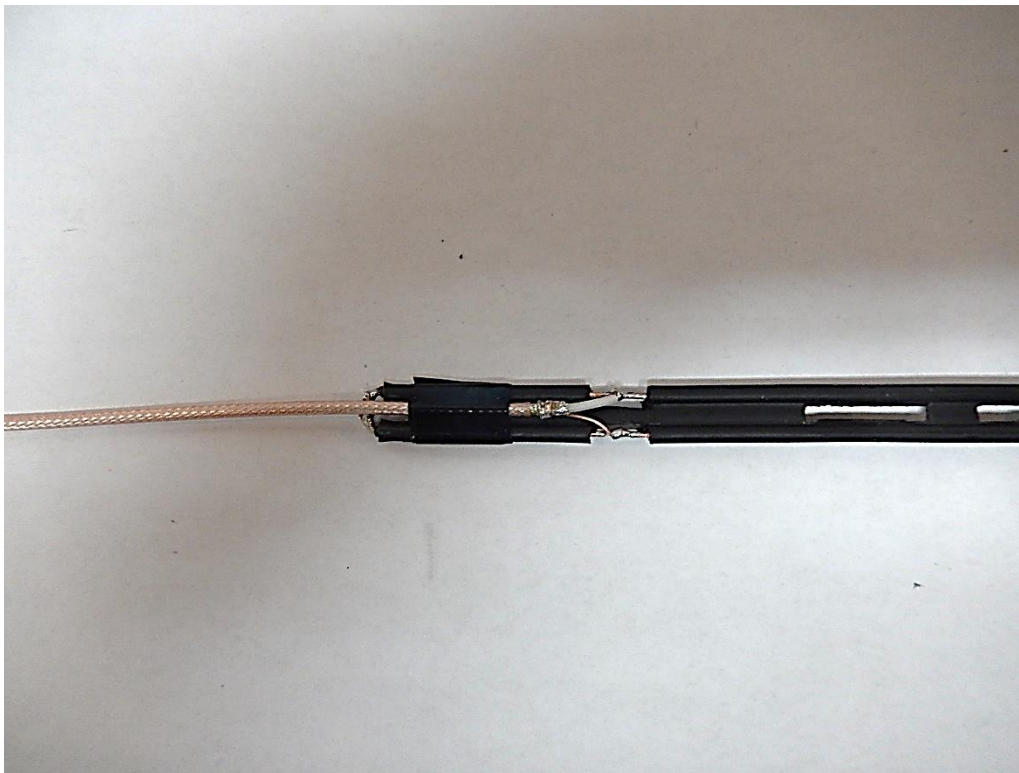

Figure 15
15. Tape the coax to the twin lead and solder as shown below. The centre conductor goes to the long side and the shield goes to the short side of the twin lead. Try to solder the conductors as close as possible to the centre of the gap. This connection point affects feed point impedance and hence SWR. (fig 15)